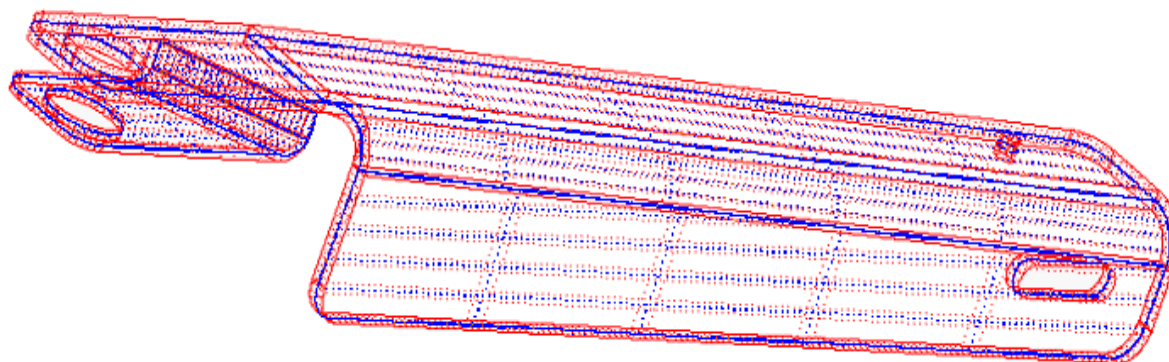

Figure 5.2.14 Middle Surfaces of the Part
6. Middle surfaces of the part are generated from the offset of the top surfaces. They are included in a new part MIDSURF1. Refer to the yellow part in Figure 5.2.14.